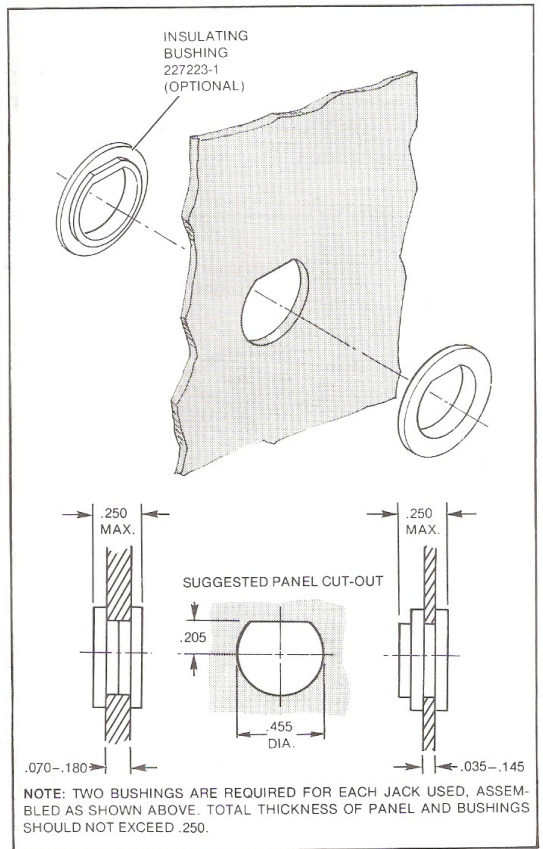

Figure 3
The assemblies containing a solder tab on the lockwasher are used with coaxial cables. For installations requiring ground isolation, the use of the Insulated Receptacle is recommended. Ground isolation can also be obtained with the Standard Receptacles by use of the insulating bushings, shown in Figure 3.
- (a) For installation requiring insulating bushings, use panel cut-out shown in Figure 3.